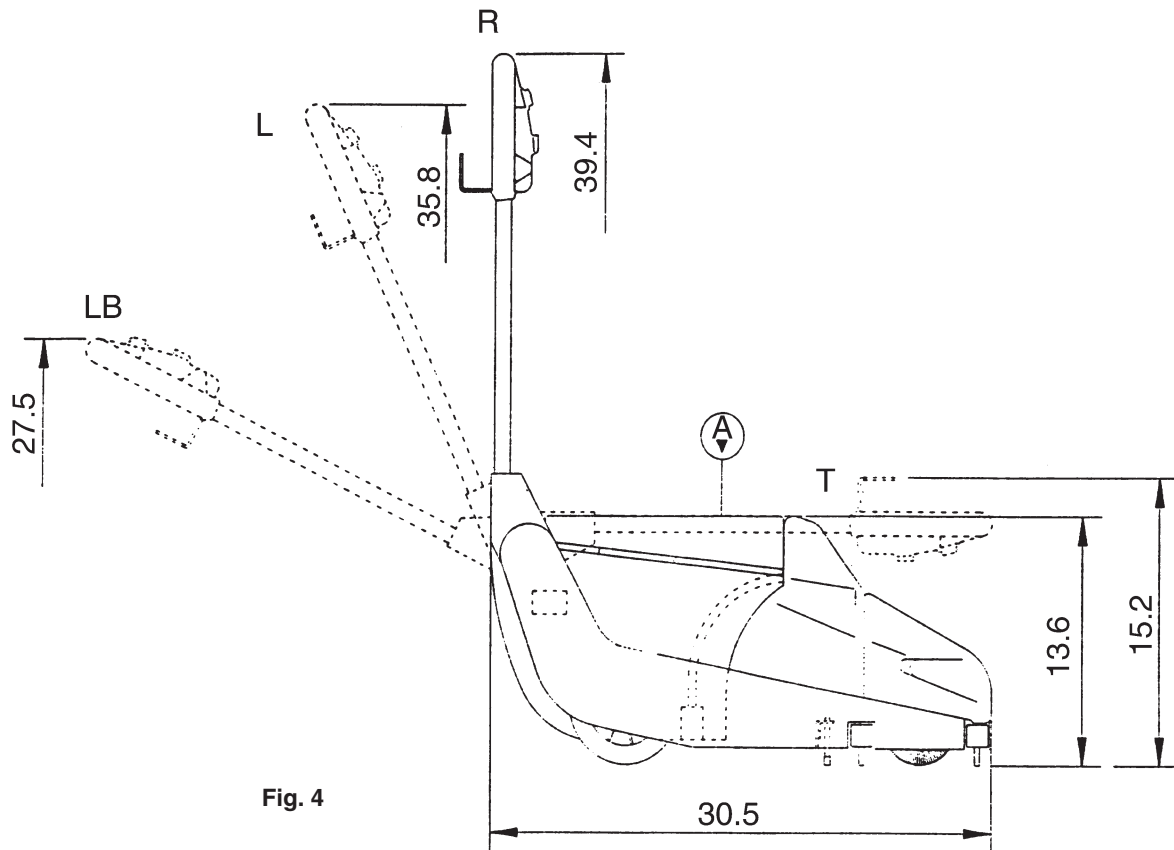

Fig. 4
- Your machine should have the handle in **T** position (see FIG. 4).
- Grip both arms of the handle at the middle (**A**) (see FIG. 4).
- Push the handle to position **R** (FIG. 4).
- The machine should have the handle in R position (see FIG.4)
To release, turn the lever (3 FIG. 3) counter-clockwise as far as it will go; this operation releases the two articulated joints simultaneously. The handle can adopt the following positions (FIG.4):
- 1) Set the handle in R position (FIG. 4).